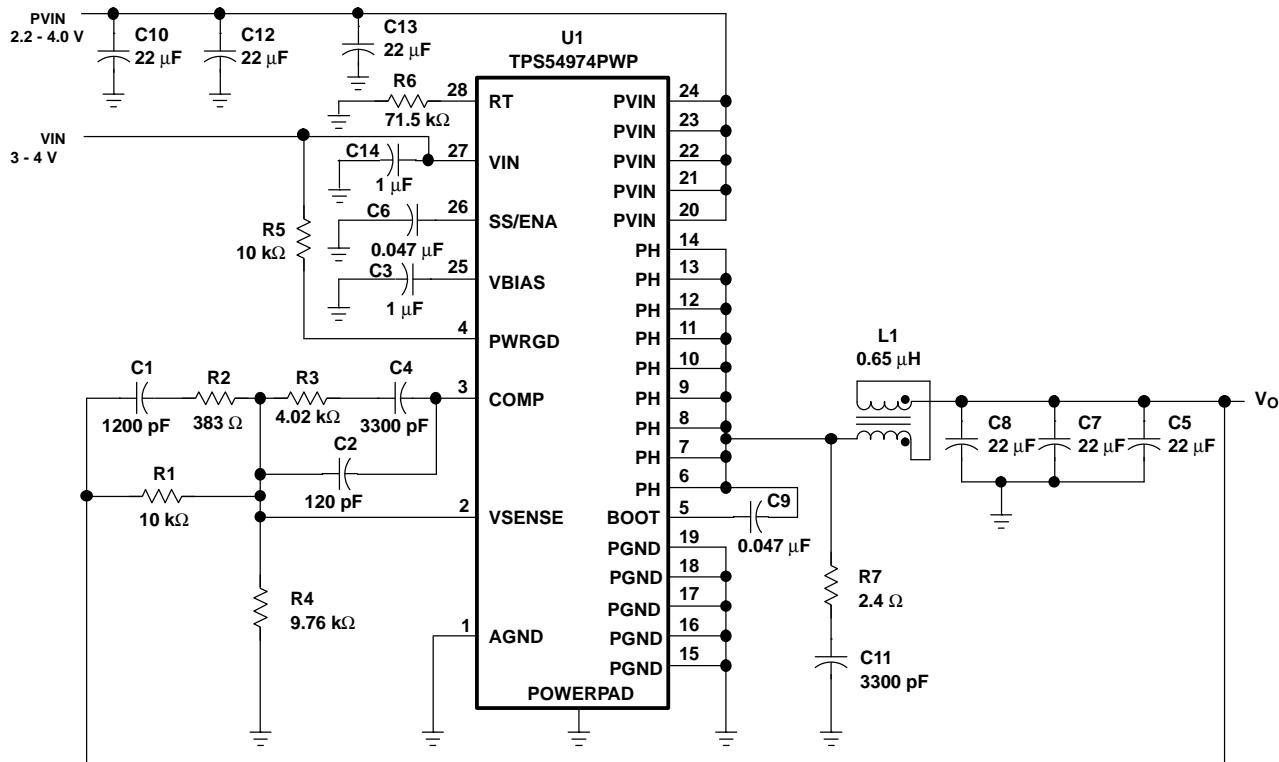

Figure 10. Application Circuit
(2) Static resistive loads only
(3) Specified by the circuit used in Figure 10.
Figure 10 shows the schematic diagram for a typical TPS54974 application. The TPS54974 (U1) can provide up to 9 A of output current at a nominal output voltage of 1.8 V. For proper thermal performance, the exposed thermal PowerPAD underneath the integrated circuit, TPS54974, package must be soldered to the printed-circuit board.
Data shown is for the circuit of Figure 10. All data is for $V_{IN} = 3.3$ V, $P_{VIN} = 2.5$ V, $V_{OUT} = 1.8$ V, $f_s = 700$ kHz, and $T_A = 25^\circ\text{C}$, unless otherwise specified